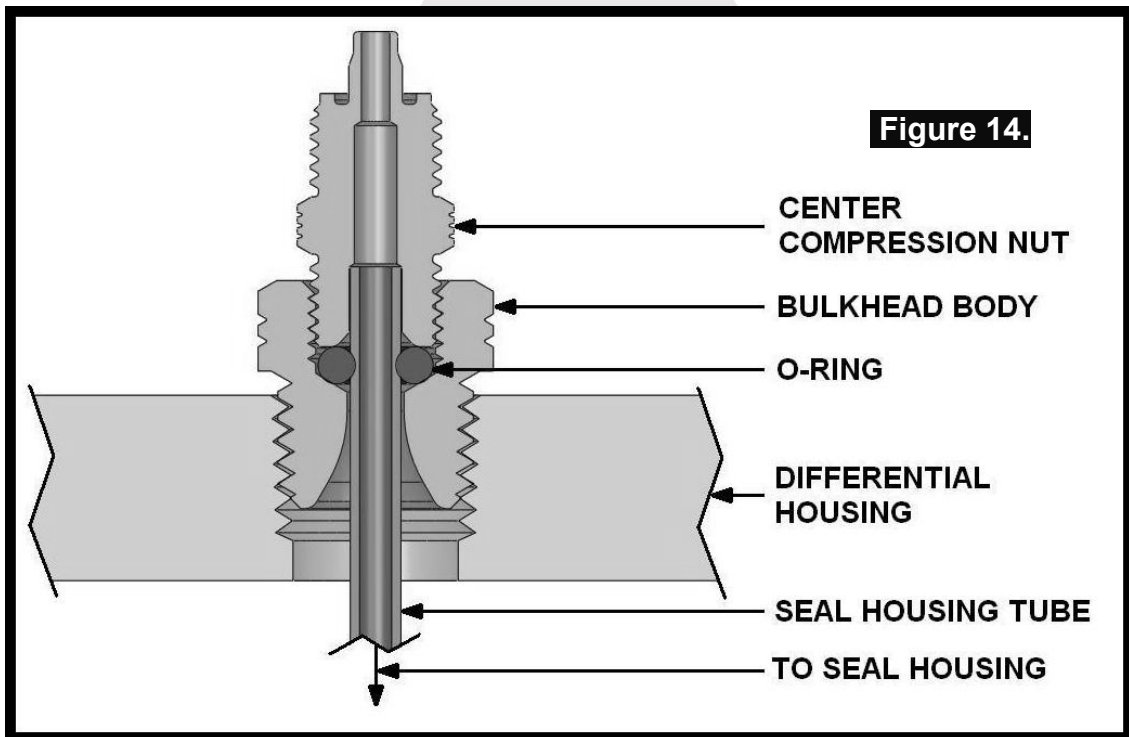

Figure 14.
- ☐ While still holding the seal housing tube into the bulkhead fitting, insert the small drilled end of the center compression nut over the extended tube as shown in the assembly diagram (Fig.14.), and screw it into the bulkhead body, and lightly tighten.